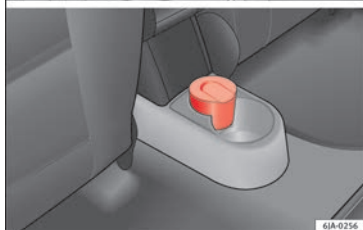

Fig. 153 Centre console: front ashtray/rear ashtray.
- Pull the ashtray » **Fig. 153** upwards to remove.